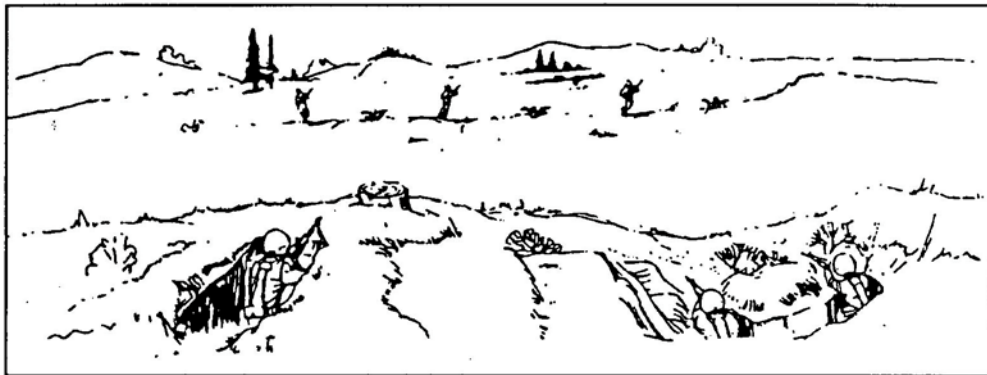

Figure 11. Linear target.
- c. Linear target. Initially, aim at the midpoint of the target. Traverse fire to one flank and then to the other to cover the entire target (Figure 11).